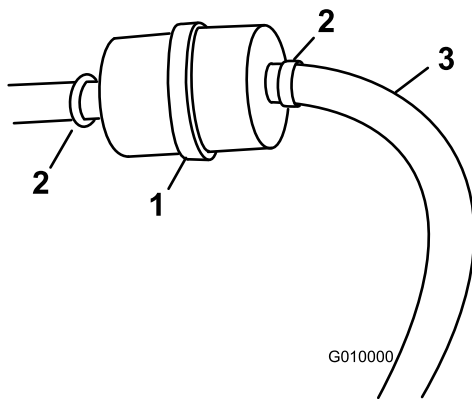

Figure 17
3. Place a clean container under the fuel filter (Figure 17).